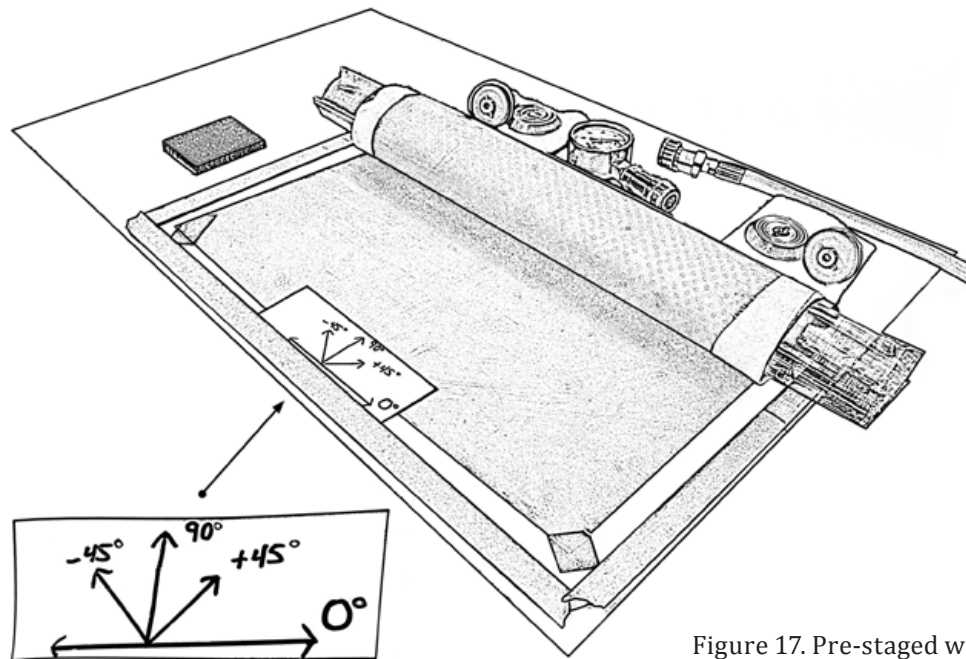

Figure 17. Pre-staged work area
2. Apply vacuum bagging sealant tape, and all bagging material (see Figure 17).